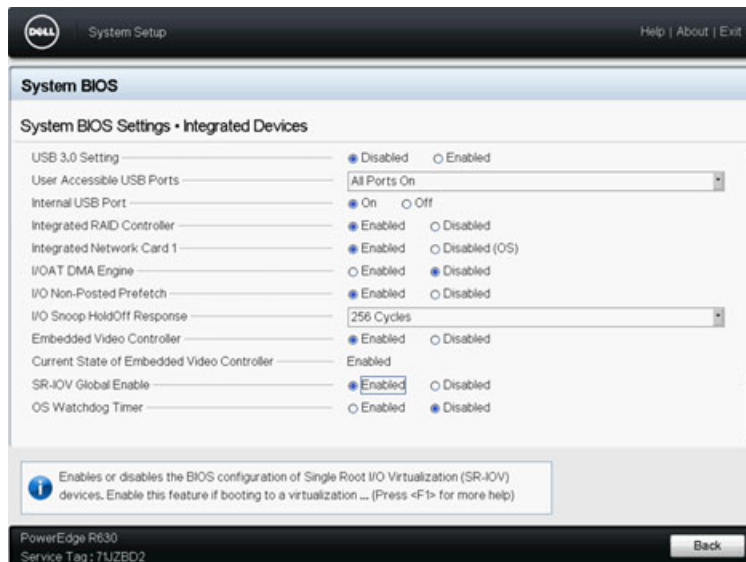

Figure 12-1. System Setup for SR-IOV: Integrated Devices
3. On the Integrated Devices page (Figure 12-1):
3. On the System Integrated Devices page (see Figure 12-1 on page 233):